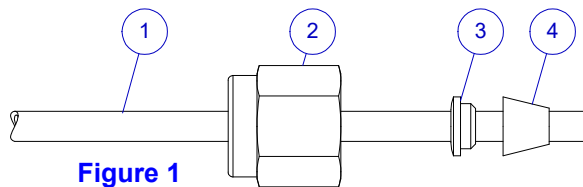

Figure 1
- 2) Slide the Nut and 2 Ferrules over the end of the Tubing in the same order and orientation as shown [Figure 1]